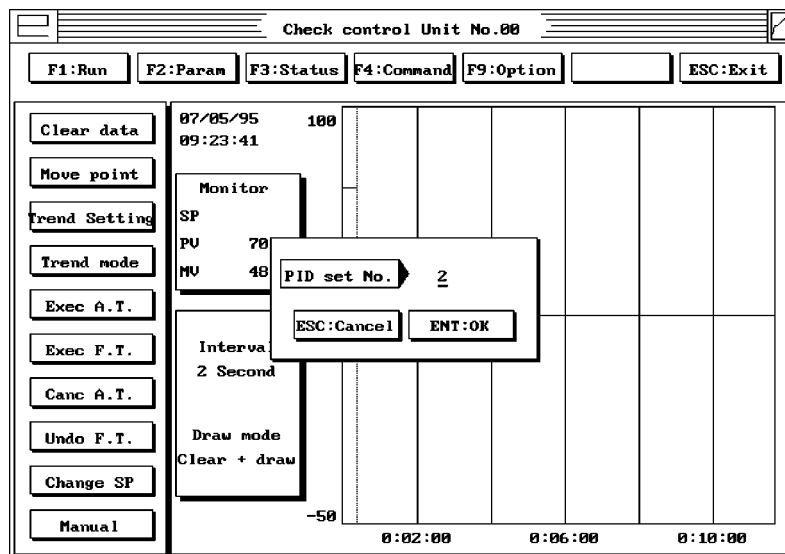

Figure 31
6. A new pop-up window will appear (Figure 31). Enter the number of the PID bank you wish to Autotune.